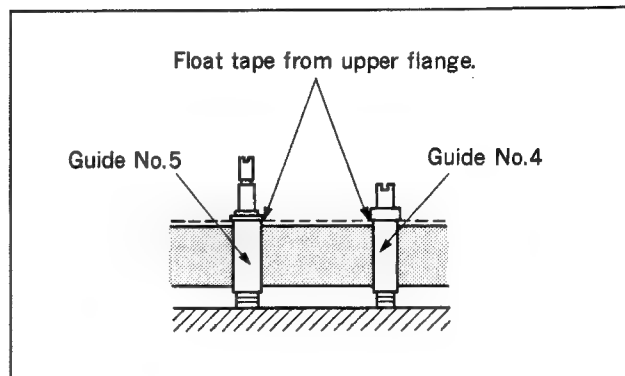

Fig. 6-3-1 Guides No.4 and No.5 adjustment
2. Rotate the Guides No.4 and No.5 counterclockwise until tape does not run in contact with upper flange. (See Fig. 6-3-1)